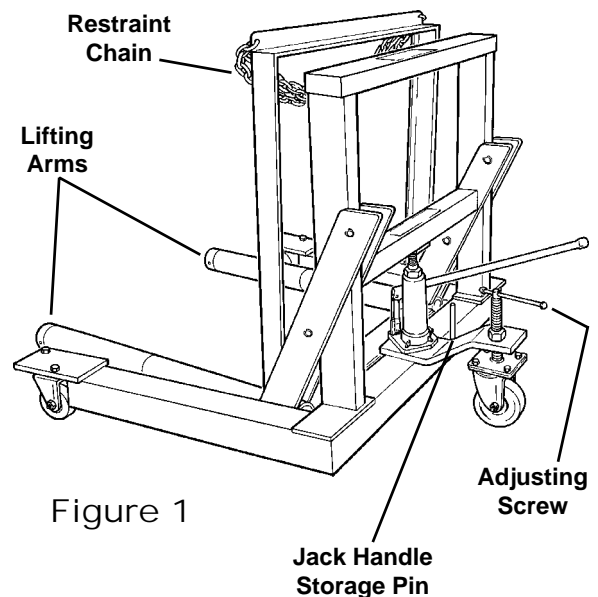

Figure 1
1. Install the jack handle into its receptacle on the jack. (When the jack is not in use, store the jack handle on the storage pin shown in Figure 1.)